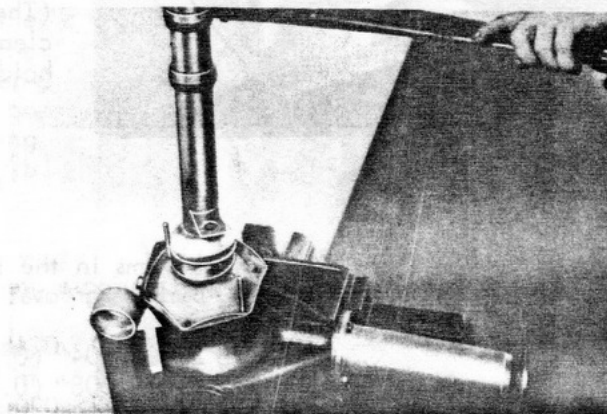

Fig. 37
3. Fit axle tube with outer bearing cover-plate concentricly and tighten down with four screws, having previously fitted shims as may be necessary (Fig. 37).